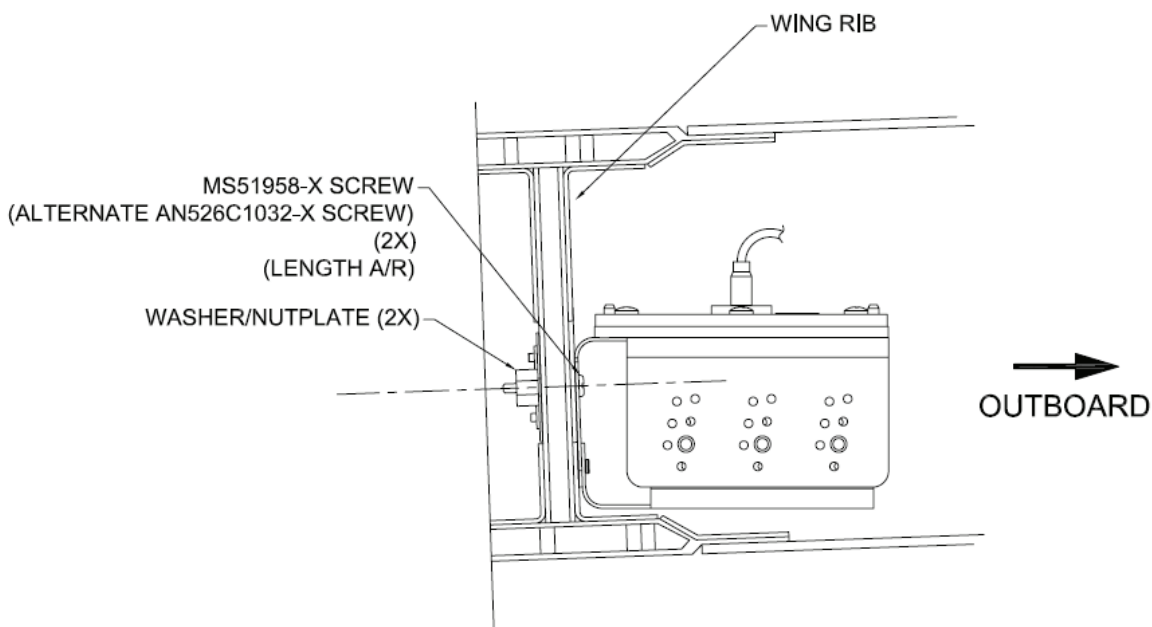

Figure C-18 Magnetometer Assembly attached to Wing Rib
16. Attach GMU assembly to wing rib as shown in Figure C-18.